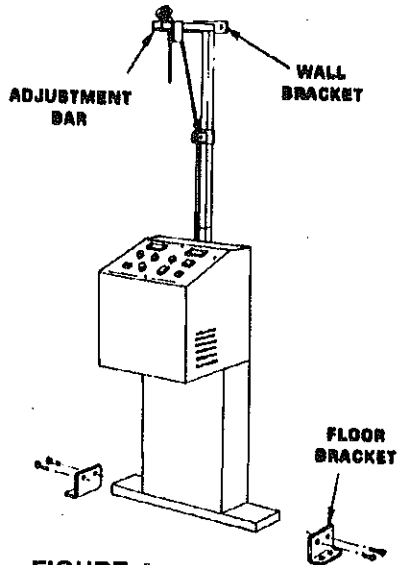

FIGURE 4
1. Install floor mounting brackets supplied with unit - Refer to Figures 4 and 5.